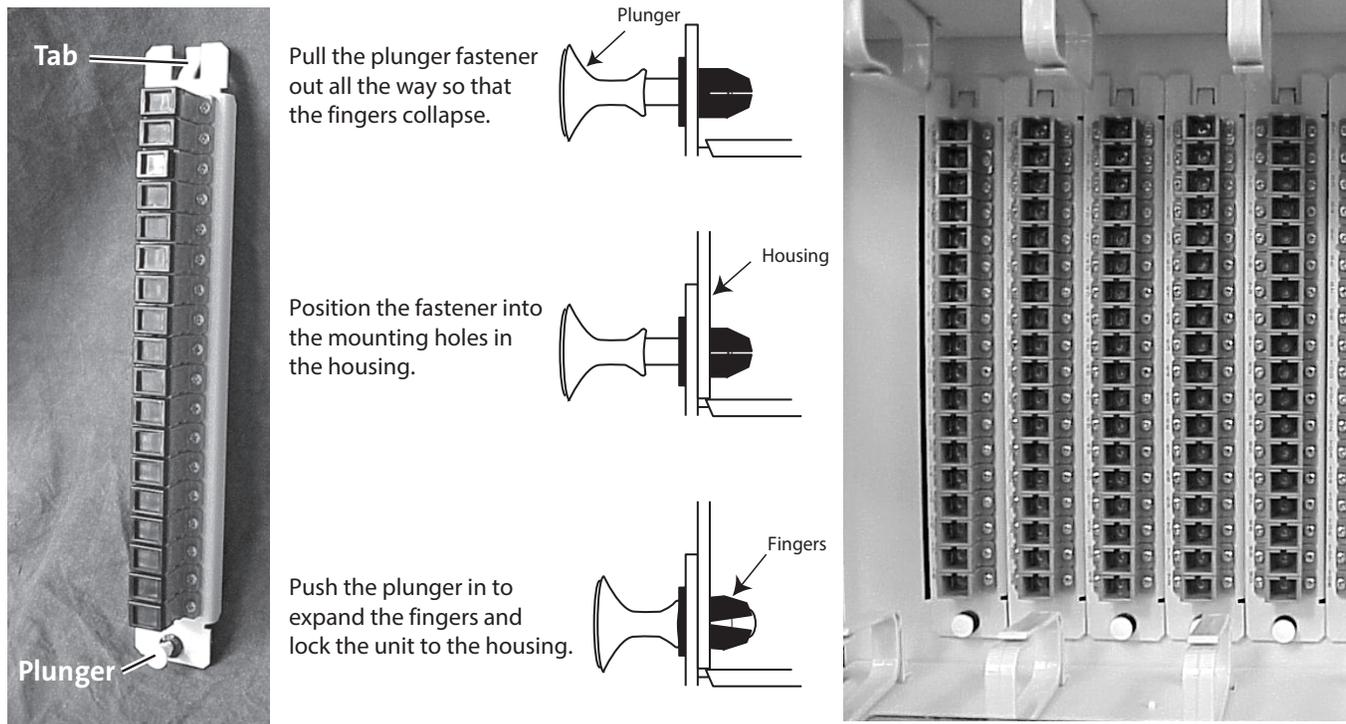

Figure 9
- Step 2:** Insert the metal tab at the top of the LTS adapter panel into the housing as shown in Figure 9.